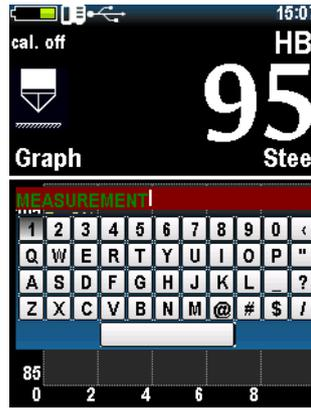

Figure 2.11 – Entering the name for the saving measurement
- A keyboard will appear on the display to enter the measurement (series of measurements) name (Figure 2.11).